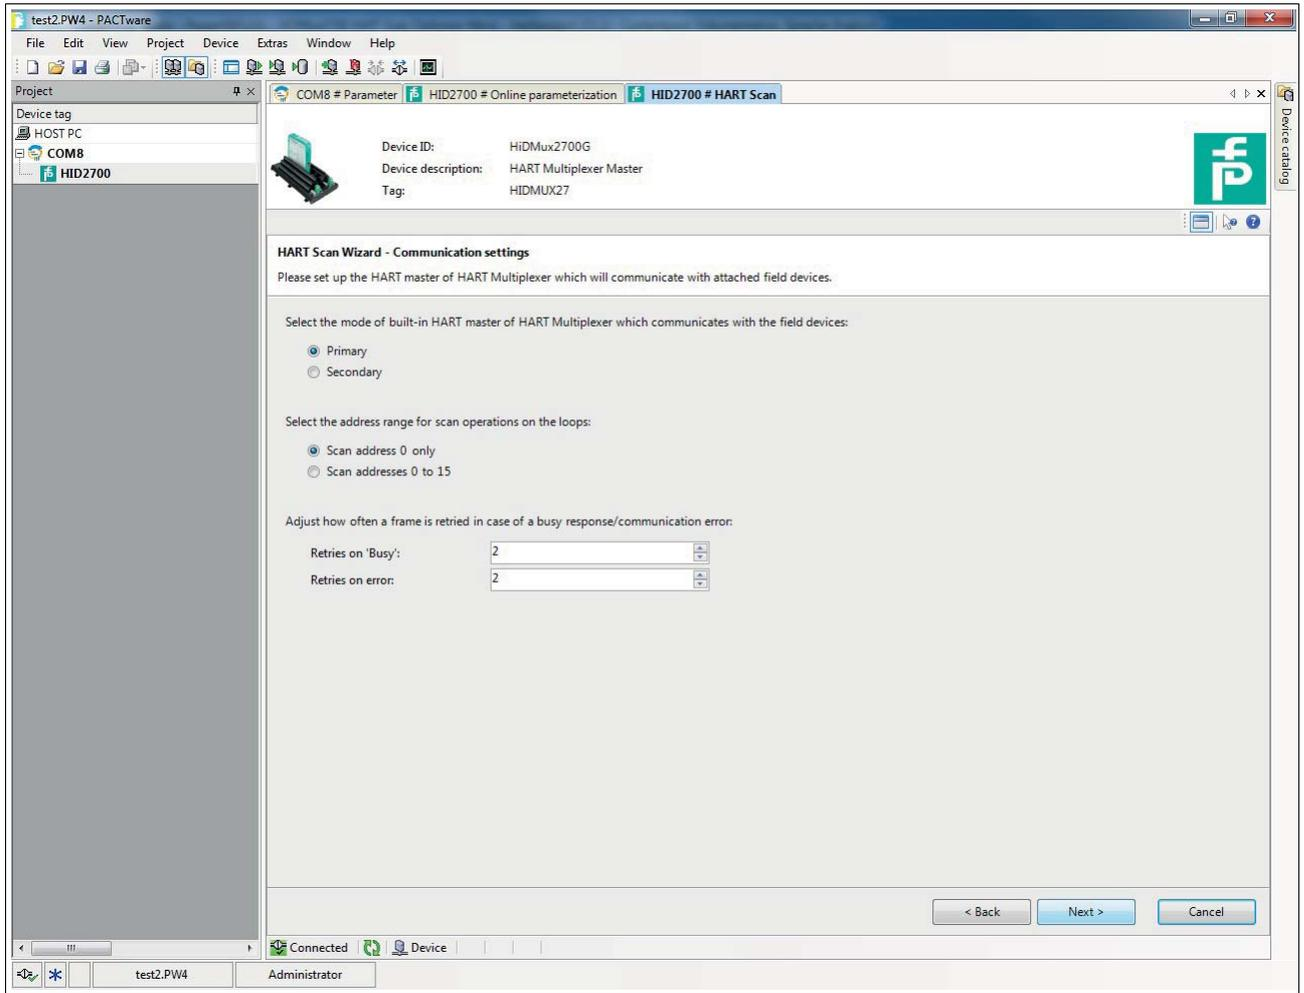

Figure 6.14 HART Scan Wizard, communication options
- **First commissioning:** Select this option to create a complete basic setup of the FDT project. Devices included in the FDT project, such as the multiplexer master, multiplexer slave, and field devices, including the communication settings, are recorded and analyzed. If you select this option, you have to define additional settings in the next steps, see Figure 6.14: